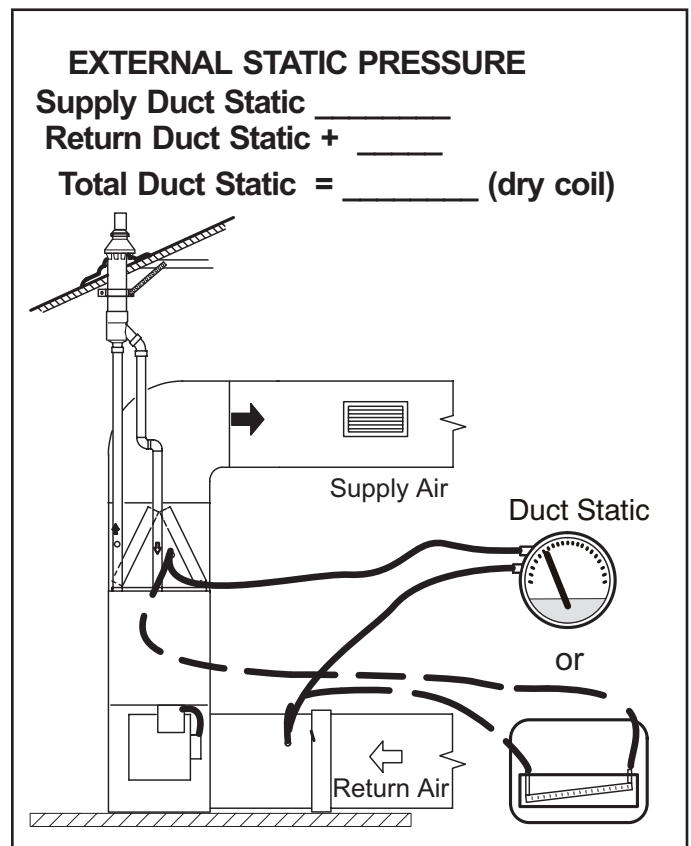

FIGURE 22
- 1 - Tap locations shown in FIGURE 22.